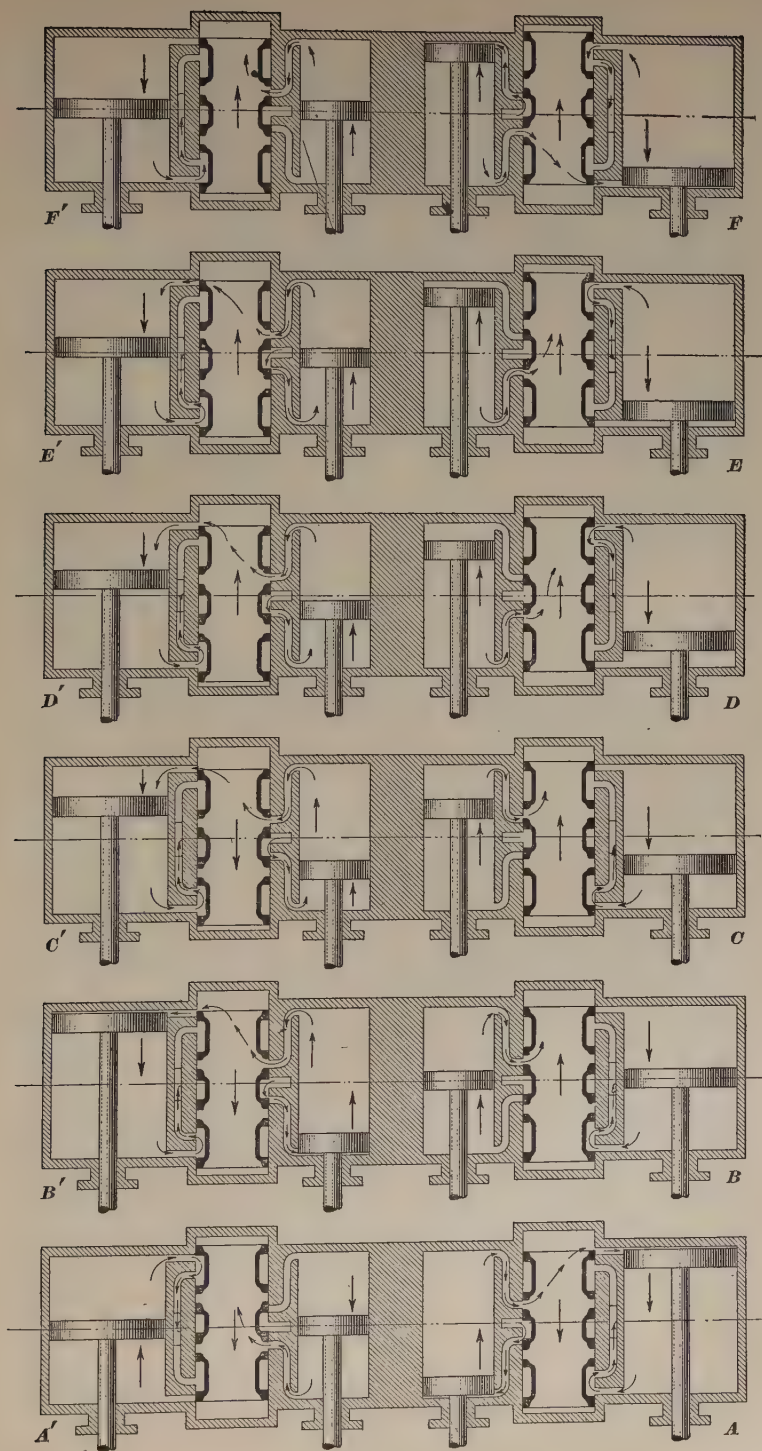

FIG. 34
53. Fig. 34 shows the relative positions of the four pistons at six points in a complete stroke. Beginning with